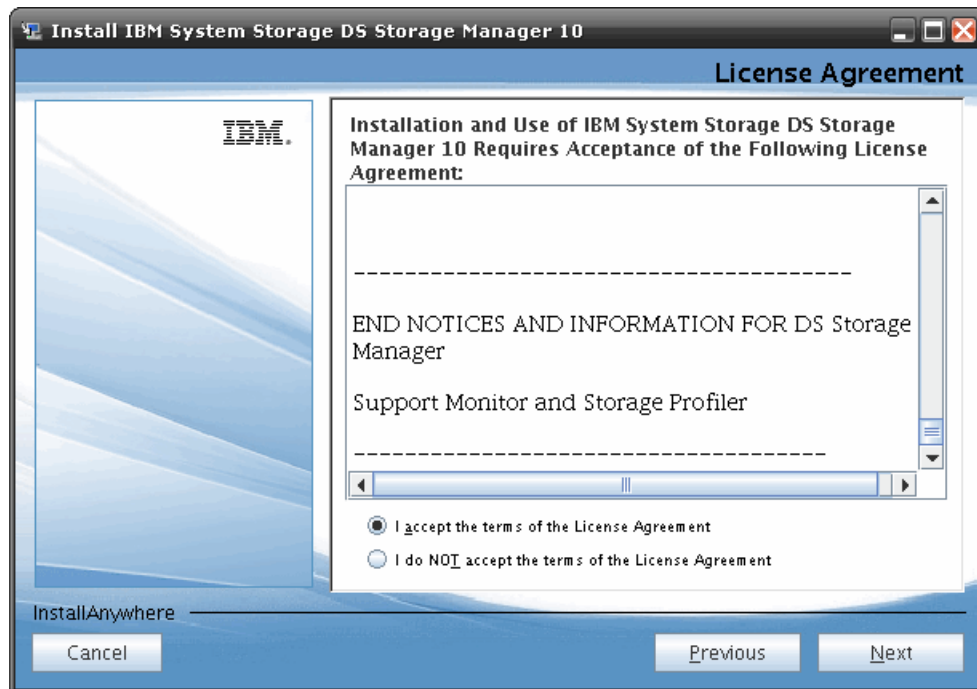

Figure 5-17 License agreement
6. Read and accept the license agreement. Click **Next** as shown in Figure 5-17